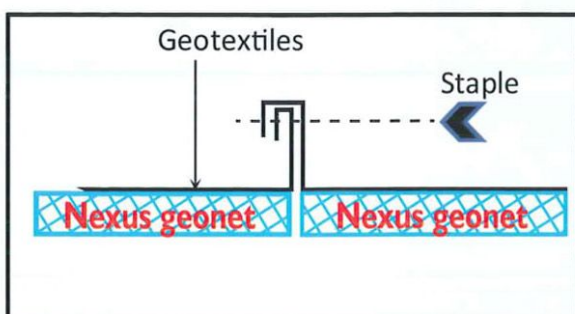

Fig 16 - Joint details
4. Adjacent rolls are laid side by side. Staple geotextiles at the joints (Fig.16).